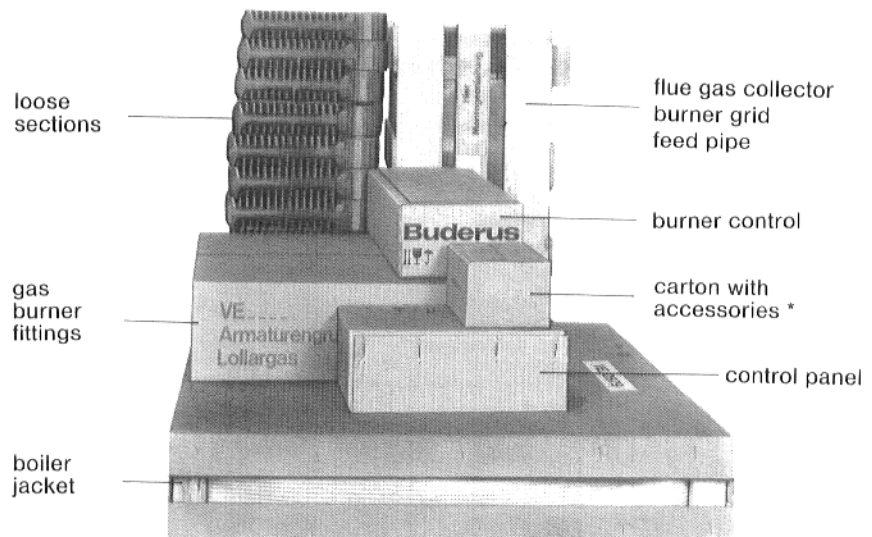

Fig. 5
b) boiler in loose section (Fig. 5)